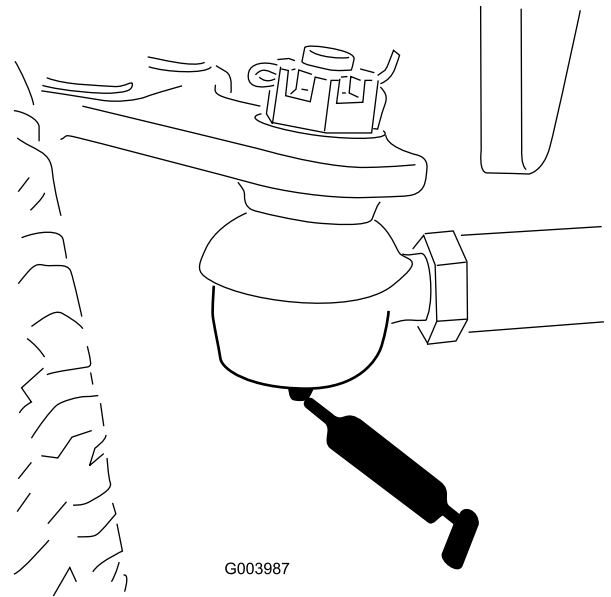

Figure 51
- Rear axle tie rod (2) (Figure 51)